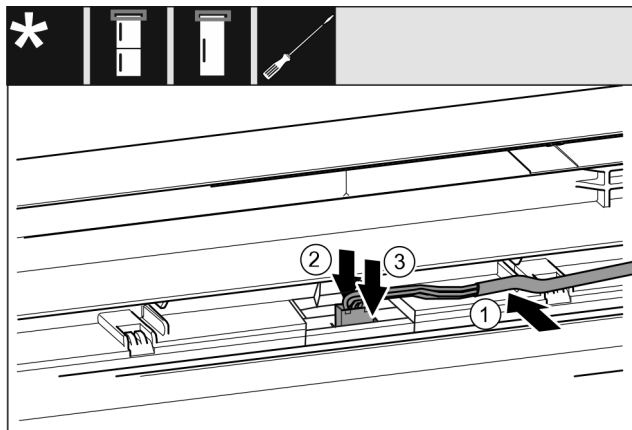

Fig. 49 Fridge/freezer combinations/freezers/cooling units*
- Carefully insert the cable Fig. 49 (1) into the guide in the top door.*
- Press the latching tab Fig. 49 (2) towards the back.*
- Snap in the plug Fig. 49 (3).*